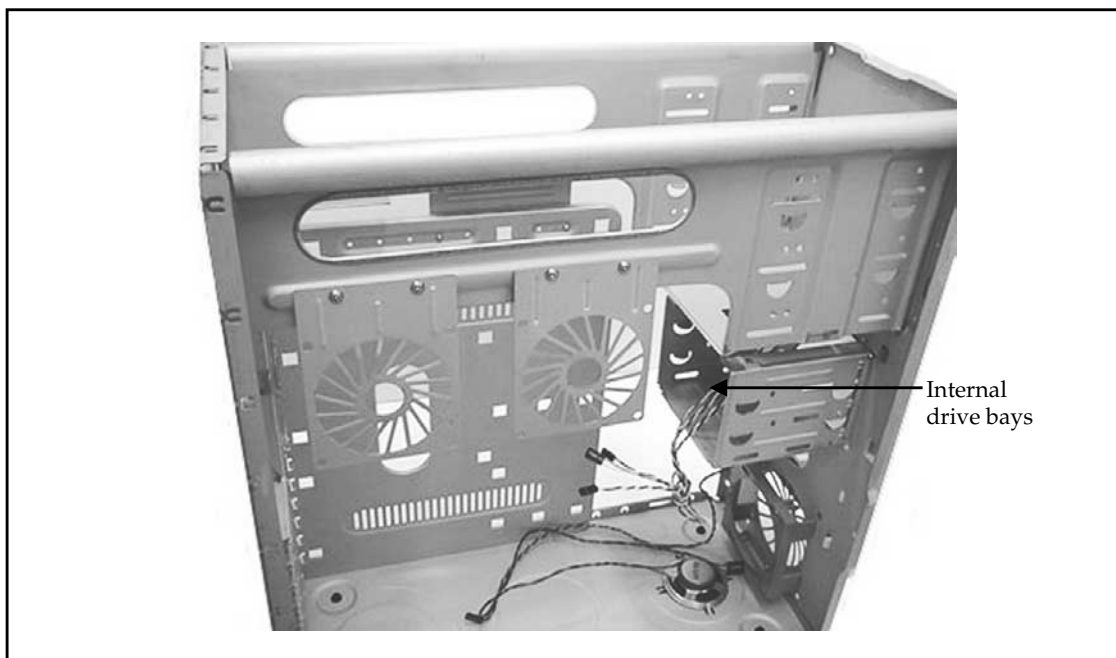

Figure 15-9. Internal drive bays inside a chassis. Photo courtesy of Enlight Corporation
- ▲ **Internal drive bays** These drive bays are completely inside the system case and are not accessible from outside the chassis, as shown in Figure 15-9. These bays are designed for devices with no need for external exposure, primarily hard disk drives.